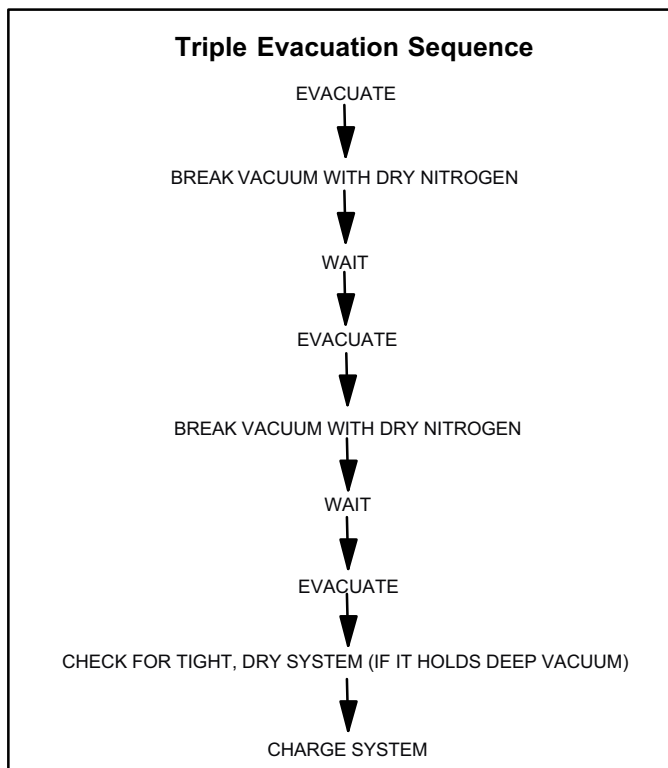

FIGURE 20
The triple evacuation method should only be used when system does not contain any water in liquid form and vacuum pump is only capable of pulling down to 28 inches of mercury (711mm Hg). Refer to figure 20 and proceed as follows:
5. Repeat this procedure as indicated in figure 20.